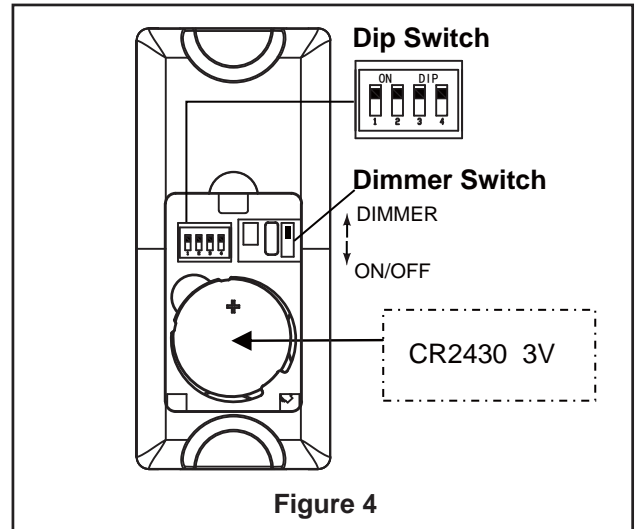

Figure 4
4. Pairing Process for Receiver & Transmitter: (Figure 4)
– The receiver and accompanying transmitter are matched at the factory. If replacing transmitter or receiver, you must follow the pairing process below before using the unit. The fanSync receiver can be paired to up to five (5) transmitters.